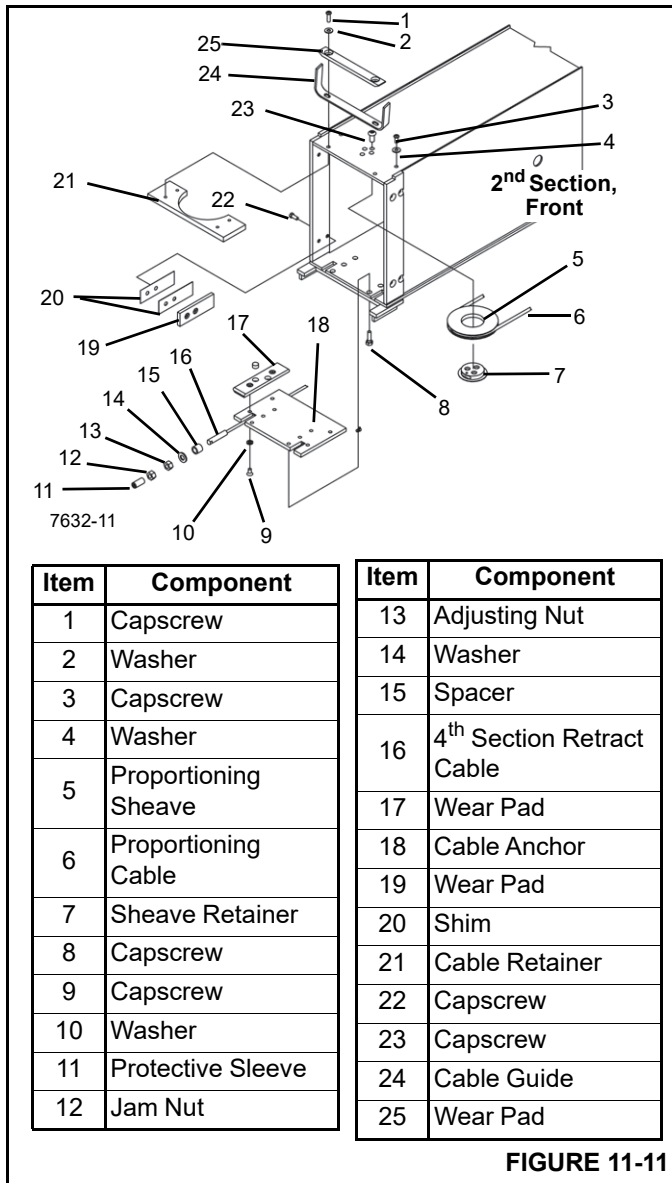

FIGURE 11-11
11. Slide the 4th/3rd section assembly into the 2nd section; routing the 3rd section retract cable through the 2nd section and being careful to not damage the 4th section retract cables under the 3rd section. Leave this assembly hanging out of the 2nd section about 1.5 m (5 ft) (Figure 11-11).
12. Slightly lift the assembled sections in the 2nd section and install the bottom side wear pads (19) and shim (20) as required (Figure 11-11).
15. Assemble the 4th section retract cable anchor plate (18) and wear pads (17).
16. With the assembled sections still supported, install the cable anchor/wear pad assembly to the bottom of 2nd section, routing the 4th section retract cables (16) under the cable anchor plate in the slots (Figure 11-11). Secure with capscrews.
19. Install the cable retainer (21), cable guide (24) and wear pad (25) with capscrews and washers to the top plate of the 2nd section.